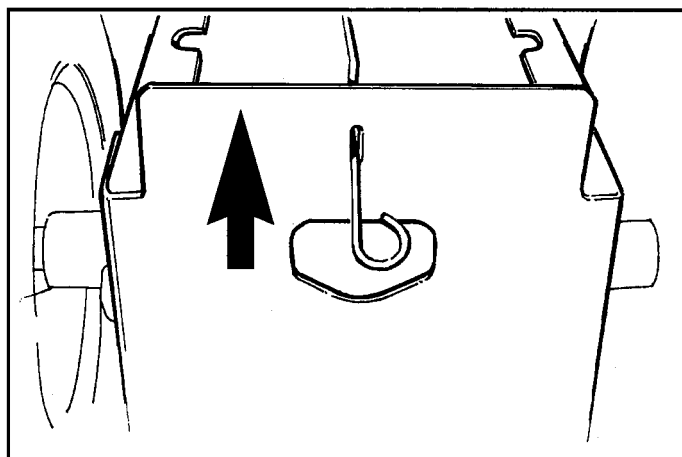

Figure 11. Hydro Transaxle Release Lever - Drive Position
4. See Figure 11. To drive the tractor, release lever must be moved to the DRIVE position by pushing lever up and in until lever locks in DRIVE position.